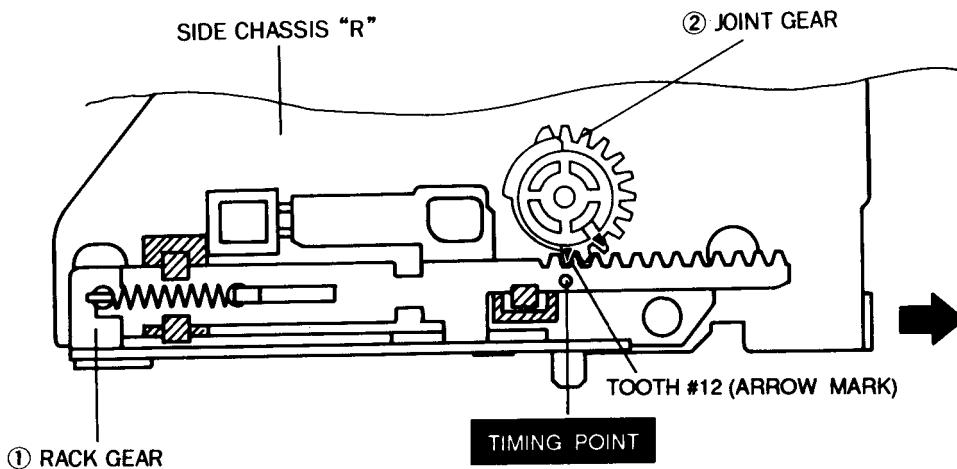

Fig. 15 Timing Confirmation of Rack Gear and Joint Gear
1. Push the rack gear ① in the direction of arrow to the end.
2. Make sure that the tooth #12 of joint gear ② and the Timing Point of rack gear ① are aligned correctly as shown in Fig. 15.